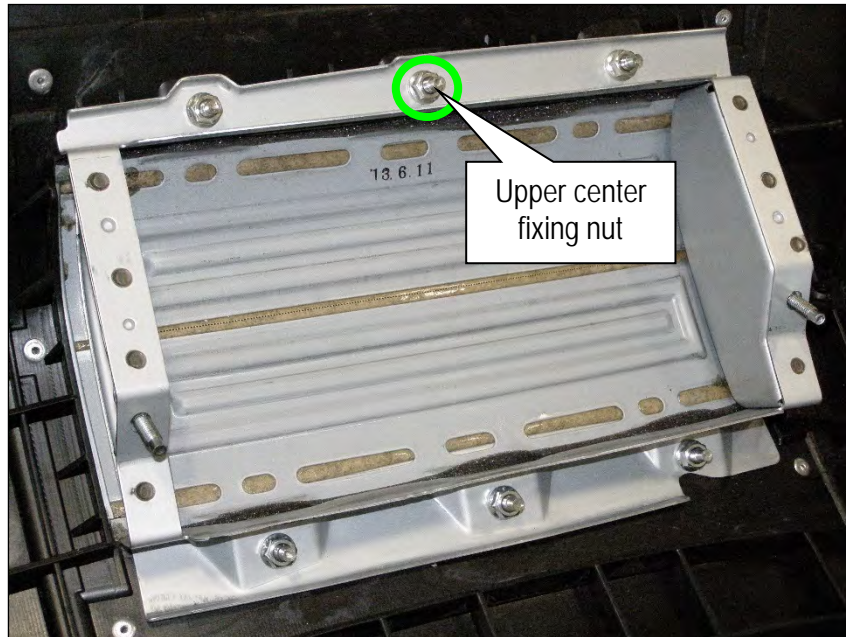

Figure 15
20. Remove the upper center fixing nut from the airbag module support bracket (Figure 15, shown with instrument panel removed).